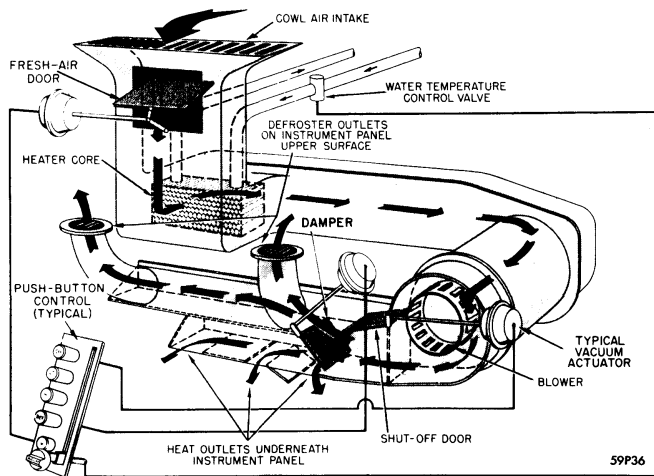

Figure 4—Push button heater air flow
The 1959 heaters are equipped with push button control for "OFF," "DEFROST" (DEF), "VENT" (V), "HIGH" (HI) and "LOW" (LO) blower speed positions, Figure 4.